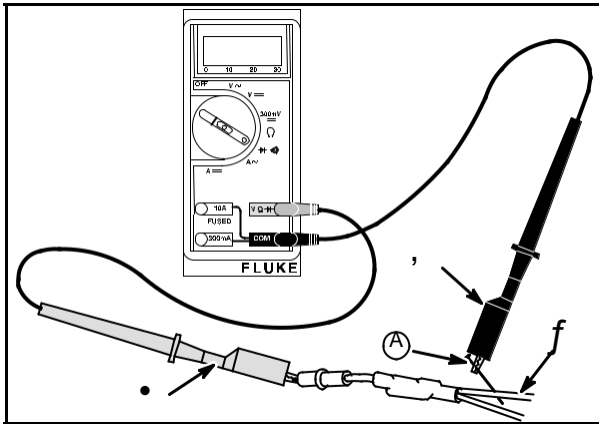

Fig. 21
Attach BLACK test lead clip (2) to point A of the RED wire (3), **Fig. 21**. (It may be necessary to pierce wire with a pin as shown.)